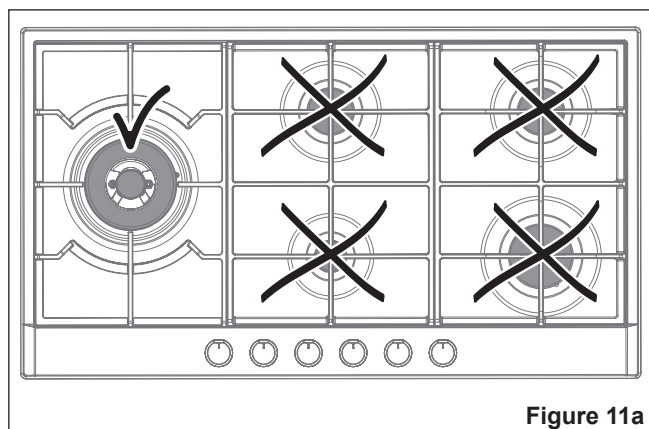

Figure 11a
- this adapter **MUST** be placed correctly (figs. 11a, 11b, 11c);